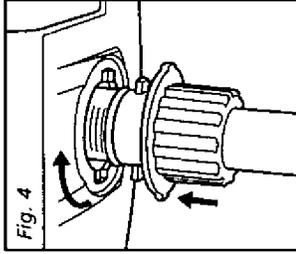

Fig. 4
2. Firmly press into place (Fig. 4, see next page). Blue lip on tube must be flush with the bottom of unit.
3. Rotate 1/4 turn clockwise and pull slightly downwards to lock into place (Fig. 4, see next page).